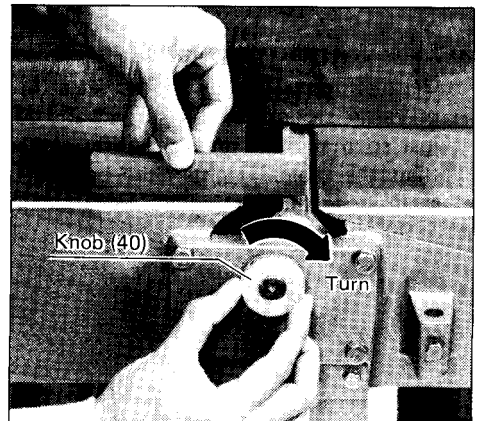

Fig. 24
- After unlocking the drum, press down the wooden leveler on the blades slightly and turn the knob slowly in the direction of the arrow. (See Fig. 24).